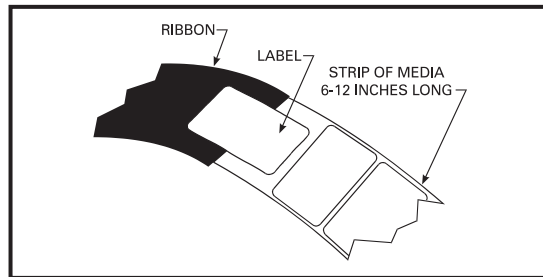

Figure 2.3 Making a Leader
4. **Important.....**To make ribbon loading and unloading easier, make a leader for your ribbon roll if it doesn't already have one (refer to Figure 2.3):